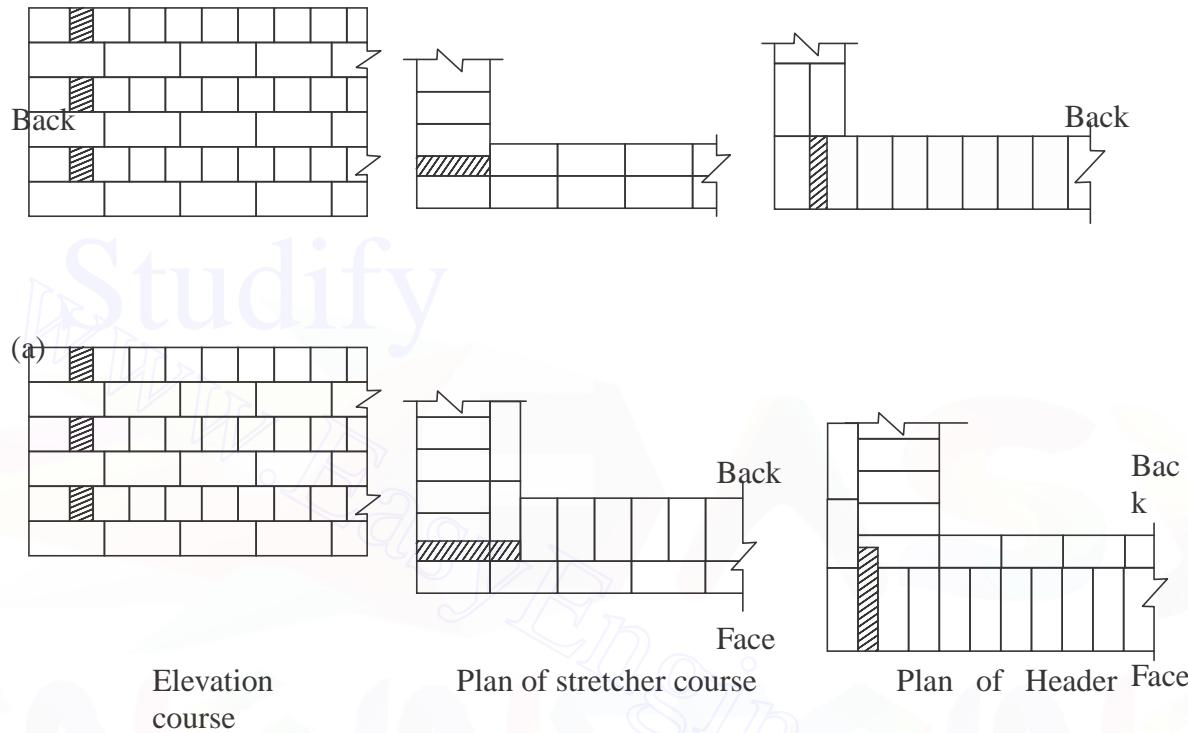

Fig. 2.6.3 English bond
**3. English Bond:** In this alternate courses consist of headers and stretchers. This is considered to be the strongest bond. Hence it is commonly used bond for the walls of all thicknesses. To break continuity of vertical joints a brick is cut lengthwise into two halves and used in the beginning and end of a wall after first header. This is called queen closer. Figure 2.6.3 shows typical one brick and one and half brick thick wall with English bond.